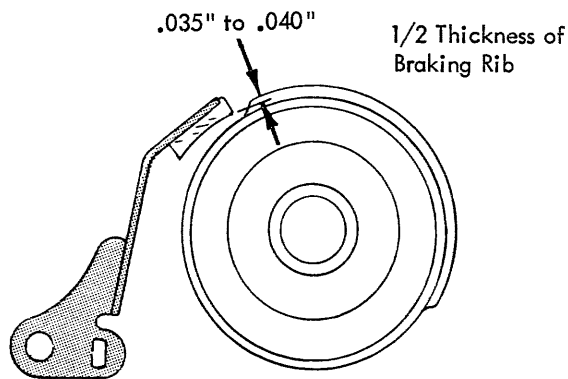

FIGURE 31. Shift Cam Brake Adjustment
4. Shift Cam Brake - The shift cam brake should be adjusted to have .035" to .040" bite on the braking rib of the cam (Fig. 31). That is approximately 1/2 the thickness of the rib.